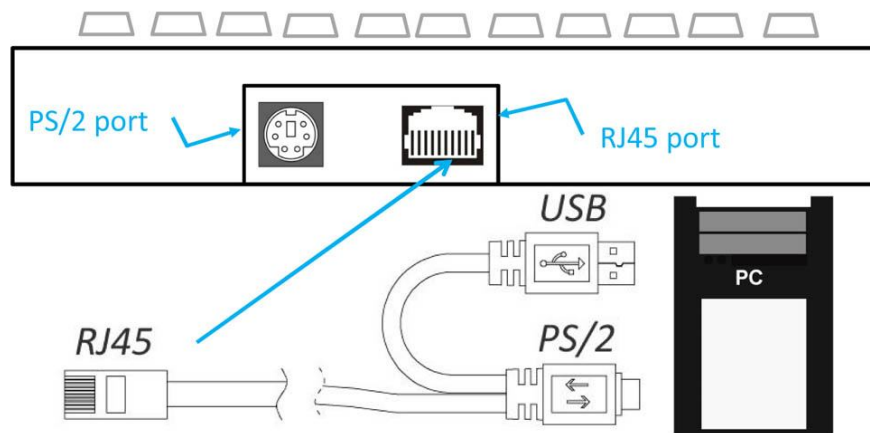

Figure 1.0
1. *This programming tool works only under USB interface of PKB-76 POS keyboard. Please make sure if your USB jack is well connected to PC's USB port, please refer (Figure 1.0.)*